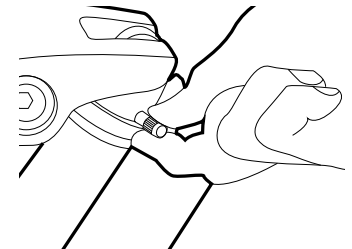

Figure 23. Manipulating the valve cap
- Unscrew the valve cap to access the shock's valve that enables you to adjust the air pressure (Figure 23).